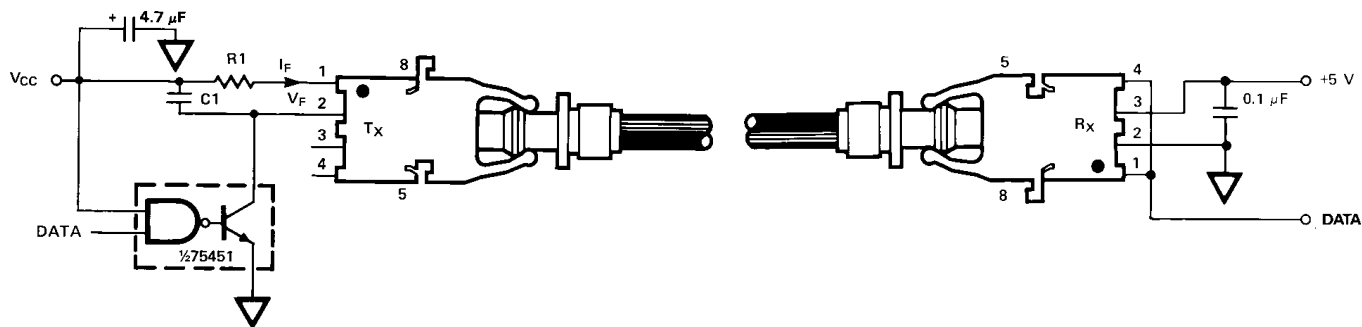

Figure 11. Required 1 MBd Interface Circuit.
- The LED drive circuit of Figure 11 is required for 1 MBd operation of the HFBR-25X2/25X4.